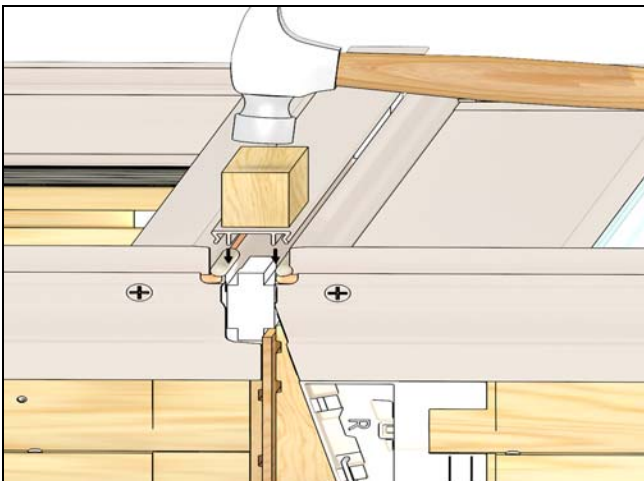

Figure 22
10. Using a wood block and hammer, carefully pound mull cap into place making sure that it does not extend into horizontal accessory kerf. See Figure 22.